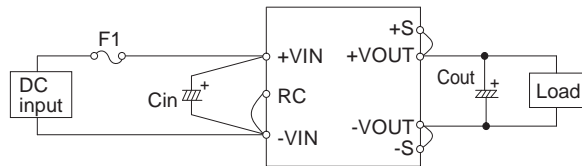
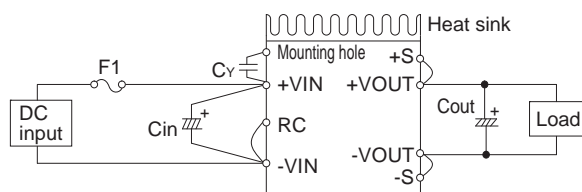

Fig.2.1 Connection for Standard Use (CQHS250)
Fig.2.2 Connection for Standard Use (CQHS300/CQHS350)
■The power module needs input and output connection as shown in Fig.2.1 or Fig.2.2.
- A decoupling capacitor C_Y must be used to reduce the line noise on the input line and stabilize the power module operation (Fig. 2.2). Note that resonance and inductance from the input line filter may cause the power module to become unstable.
(3) External capacitor on the Input
- An external capacitor C_{in} must be installed between +VIN and -VIN to reduce line noise and stabilize the power module operation (Fig. 2.1 and Fig.2.2).
- Install an external capacitor C_{out} between +VOUT and -VOUT to increase stability of output (Fig. 2.1 and Fig.2.2). Recommended capacitance of C_{out} is shown in Table 3.2 and Table 3.3.